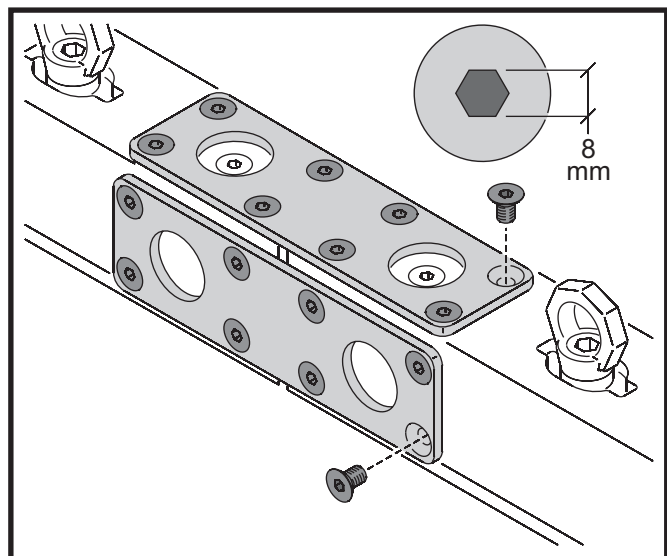

Figure 8: Joining Plates for Header Connection Brackets
1. See Figure 8. Fasten Double or Triple Header to each other using two Joining Plates, one on the top and one on the front surfaces of the Headers, securing each plate with eight of the 8 mm Allen M12 bolts supplied with each Header (i.e. sixteen bolts in total). Do not use any other bolts than the ones supplied by Martin for this purpose.